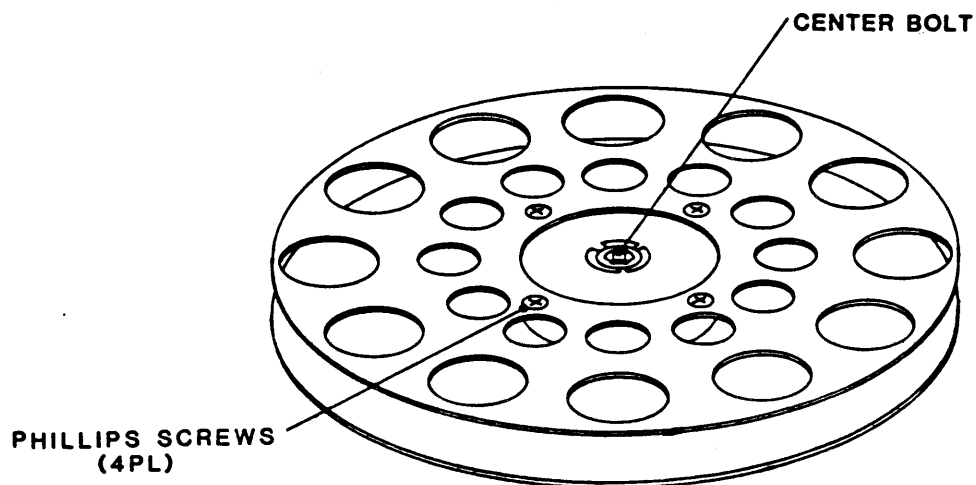

Figure 4-7 Vacuum Hub Assembly
4.3.7 VACUUM HUB ASSEMBLY (Fig. 4-7)